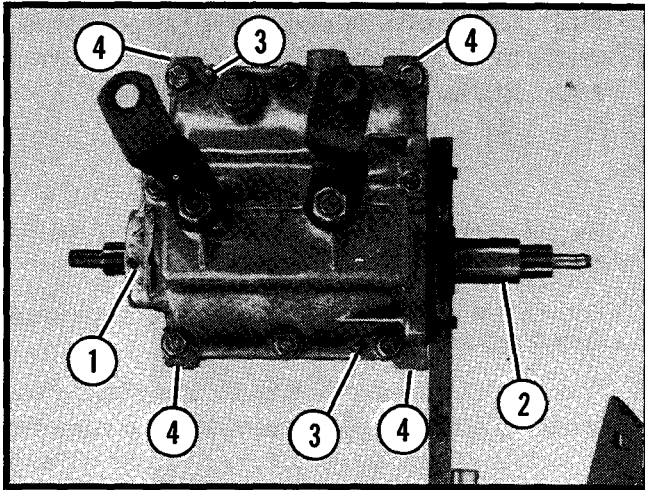

Figure 1.
4. Remove front and rear bearing retainers. See Figure 1.
4. Separating Tabs (4)
5. Remove both taper locating pins from transmission case. See Figure 1.
- DO NOT insert any tool between case halves. Use a hammer on the separating tabs located on the left half of the transmission. See Figure 1.